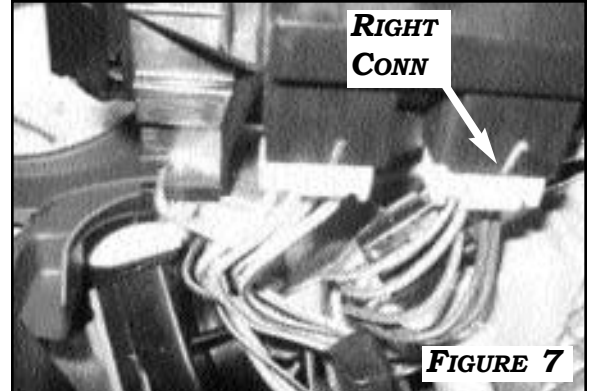

FIGURE 7
3. LOCATE FAR RIGHT CLOCKSPRING CONNECTOR BELOW STEERING COLUMN. **FIGURE 7.** USING **CLOCKSPRING/ECM HARNESS** IN KIT, INSERT **PINK** CRUISE WIRE TO **PIN 4**, **YELLOW** CRUISE WIRE TO **PIN 5** AND **VIOLET** CRUISE WIRE TO **PIN 6**. IF WIRES ARE PRESENT, REMOVE PINS FROM ROSTRA CLOCKSPRING/ECM HARNESS ON CLOCKSPRING SIDE AND USE IN LINE CONNECTORS SUPPLIED IN KIT TO CONNECT. ROUTE CLOCKSPRING/ECM HARNESS THROUGH FIREWALL TO ECM.